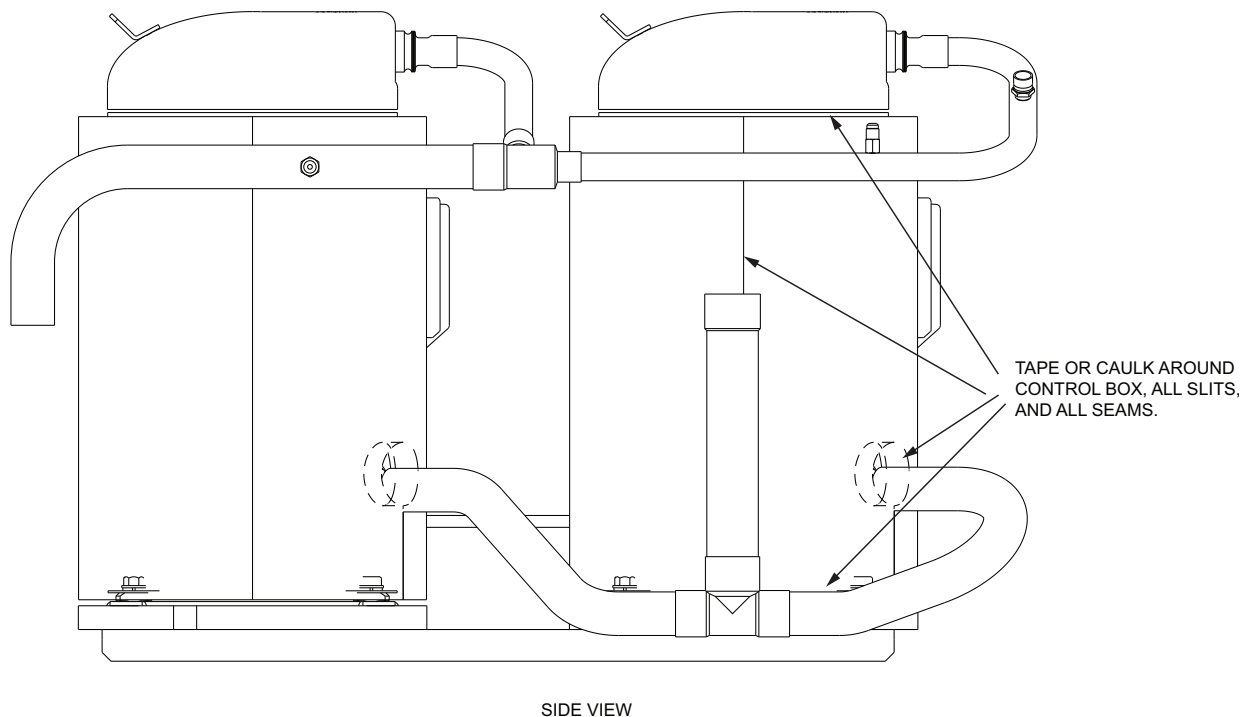

Fig. 6 — Seal Seams, Slits, and Openings
13. After all insulation is applied to all compressors, the seams and open areas should be sealed using the supplied insulating tape or caulk. See Fig. 6. Be sure to seal the mating seam for the shell, the gaps between the base pieces, and the slits for the digital box on the shell. Tape or caulk all suction and discharge lines as well as the area around the terminal box, including the conduit connections. Also, apply tape or caulk around the top of the shell insulation piece to keep air from getting between the insulation and compressor. Press down firmly on the tape to ensure a good hold. Do not cover the oil level sight glass. On units with a crankcase heater, tape over the heater conduit, but be careful not to cover the crankcase heater.
14. For units with compressor crankcase heaters power conduit installed: Cover heater conduit with adhesive tape. See Fig. 6.